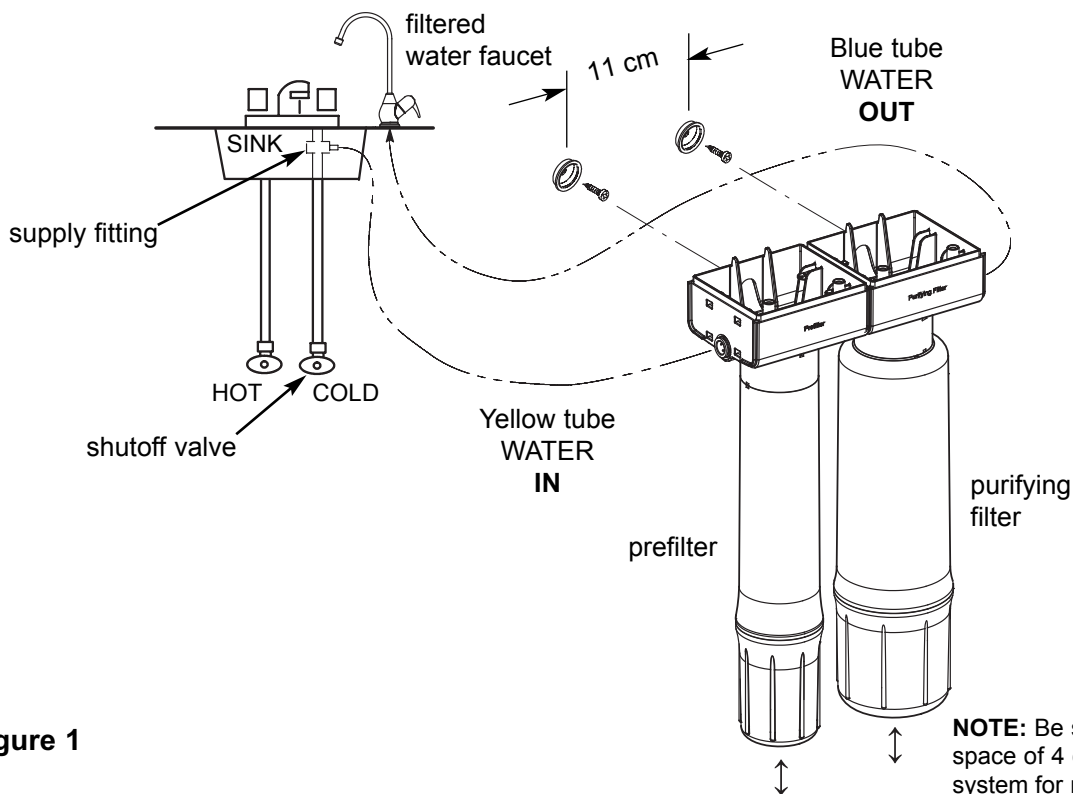

Figure 1
1. Allowing some slack, measure and cut a length of yellow 3/8" tubing to connect between the supply fitting and the filter system inlet, Figure 1. Cut the ends of the tubing square.
3. Repeat steps 1 and 2 to connect blue tubing from the faucet to the filter system outlet, Figure 1.
2. Install the cartridges onto the water filter head assembly, where shown in Figure 1. Turn cartridges to the right to tighten.